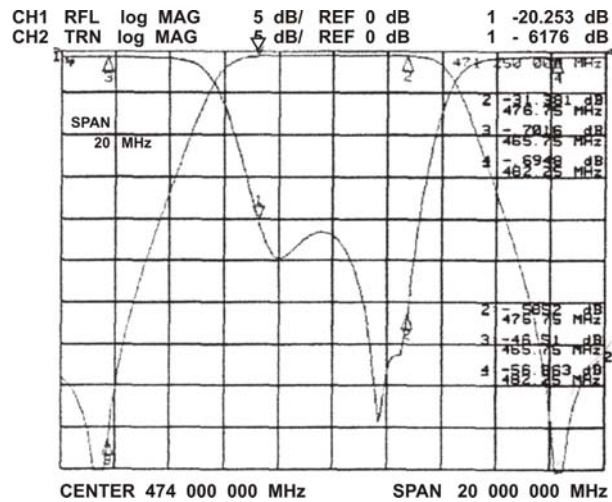

Fig. 4
6. Insert the coupling **5** (Fig. 1) to set the position of the notch attenuation on the desired frequencies (Fig. 4) (5.5MHz and +11MHz or 4-5MHz and +9MHz).